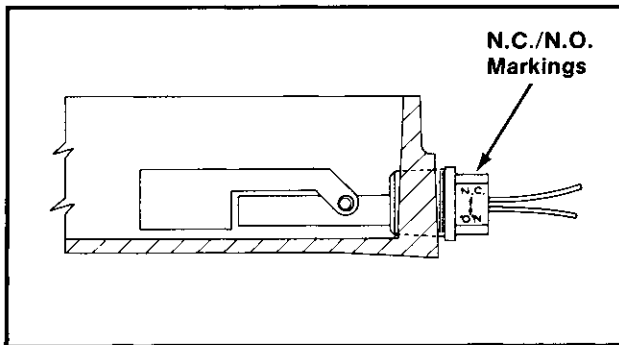

Figure 8-32. Float Switch Installation,
8. Turn in the switch approximately five (5) to six (6) full turns to obtain the proper position. Use a 9/16" open end wrench to tighten the switch. The "N.C." markings on switch will be at the top when the switch is positioned properly as shown in Figure 8-32.
- A. Make sure the switch is in the proper position with the "N.C." markings at the top. Refer to Figure 8-32.